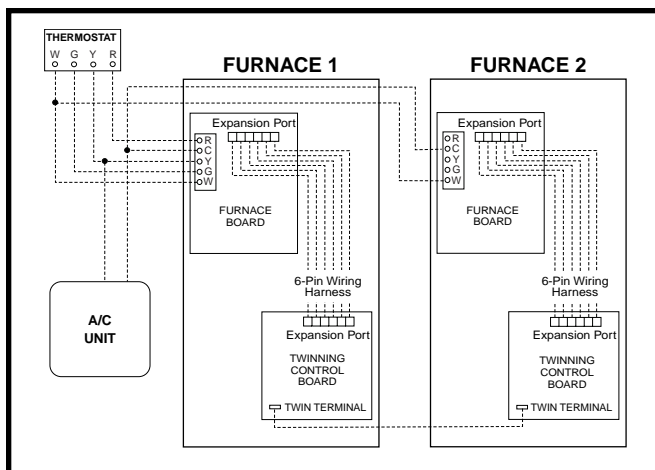

Figure 29. Single Stage Twinning
If both single stage furnaces are upgraded to the fixed speed iSEER™ blower, the twin terminal on the blower control boards (Figure 29, page 30) may be used to twin the single stage furnaces only if the following criteria are met:
For twinning of single stage furnaces equipped with fixed speed iSEER™ blowers, refer to Figure 29 and the following instructions:
3. Refer to Figure 29 for the remaining thermostat connections. The **C** connection must be made between the twinned furnaces to ensure proper performance.